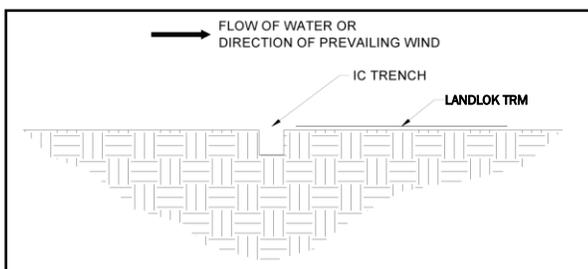

**Figure 3: Terminal Channel (TC) Trench**
5. Excavate a Terminal Channel (TC) trench a minimum of 12 in x 12 in (300 mm x 300 mm) across the channel at the upstream end of the project (Figure 3). Deeper TC trench and/or hard armoring may be required for channels that have the potential for scour.